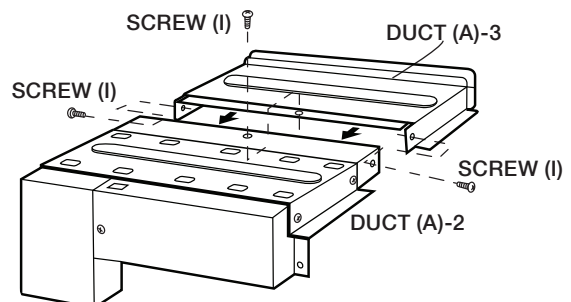

Figure 5
- D. Position DUCT (A)-3 on top of the oven and insert it into DUCT (A)-2. Secure DUCT (A)-3 using three SCREWS (I) provided. See Figure 5.